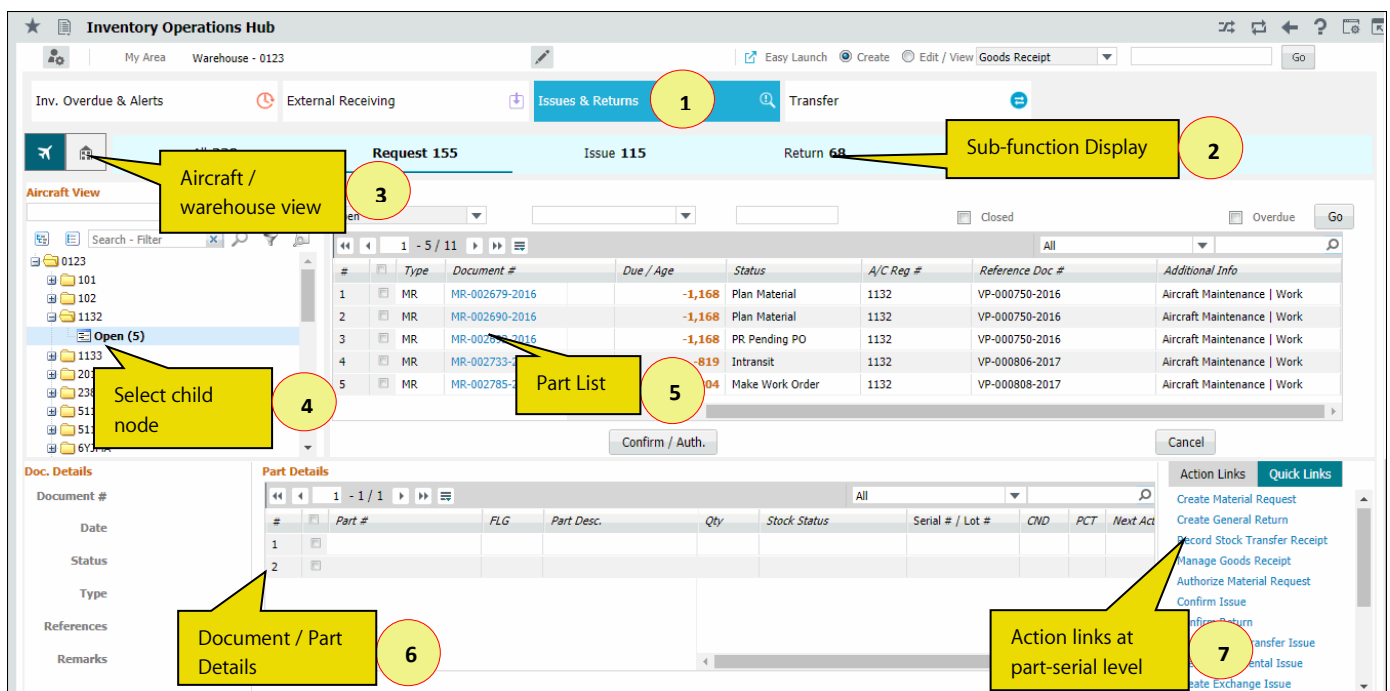

Figure 2.9 Managing Issues & Returns
1. Select the **Issues & Returns** Function in the **Inventory Operations Hub**. See Figure 2.9.